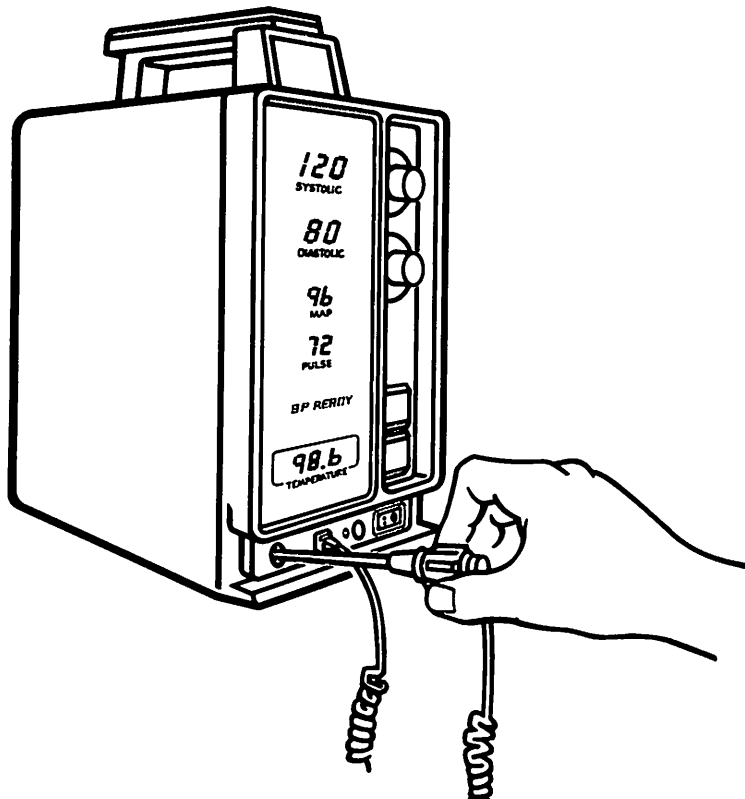

Figure 2-7. Returning Probe to Storage Well
- j. Return the probe to its storage well (see figure 2-7). This will automatically turn off and reset the thermometer function for the next temperature measurement.